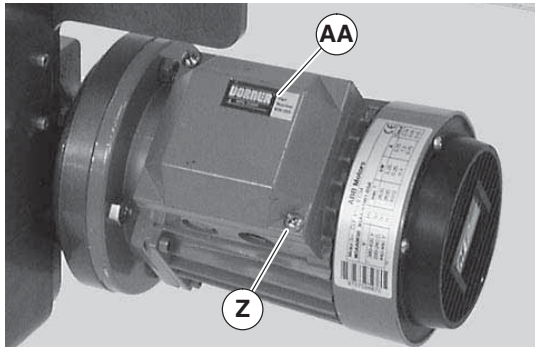

Figure 16
- a. Loosen terminal box screws (Figure 16, item Z) and remove cover (AA).